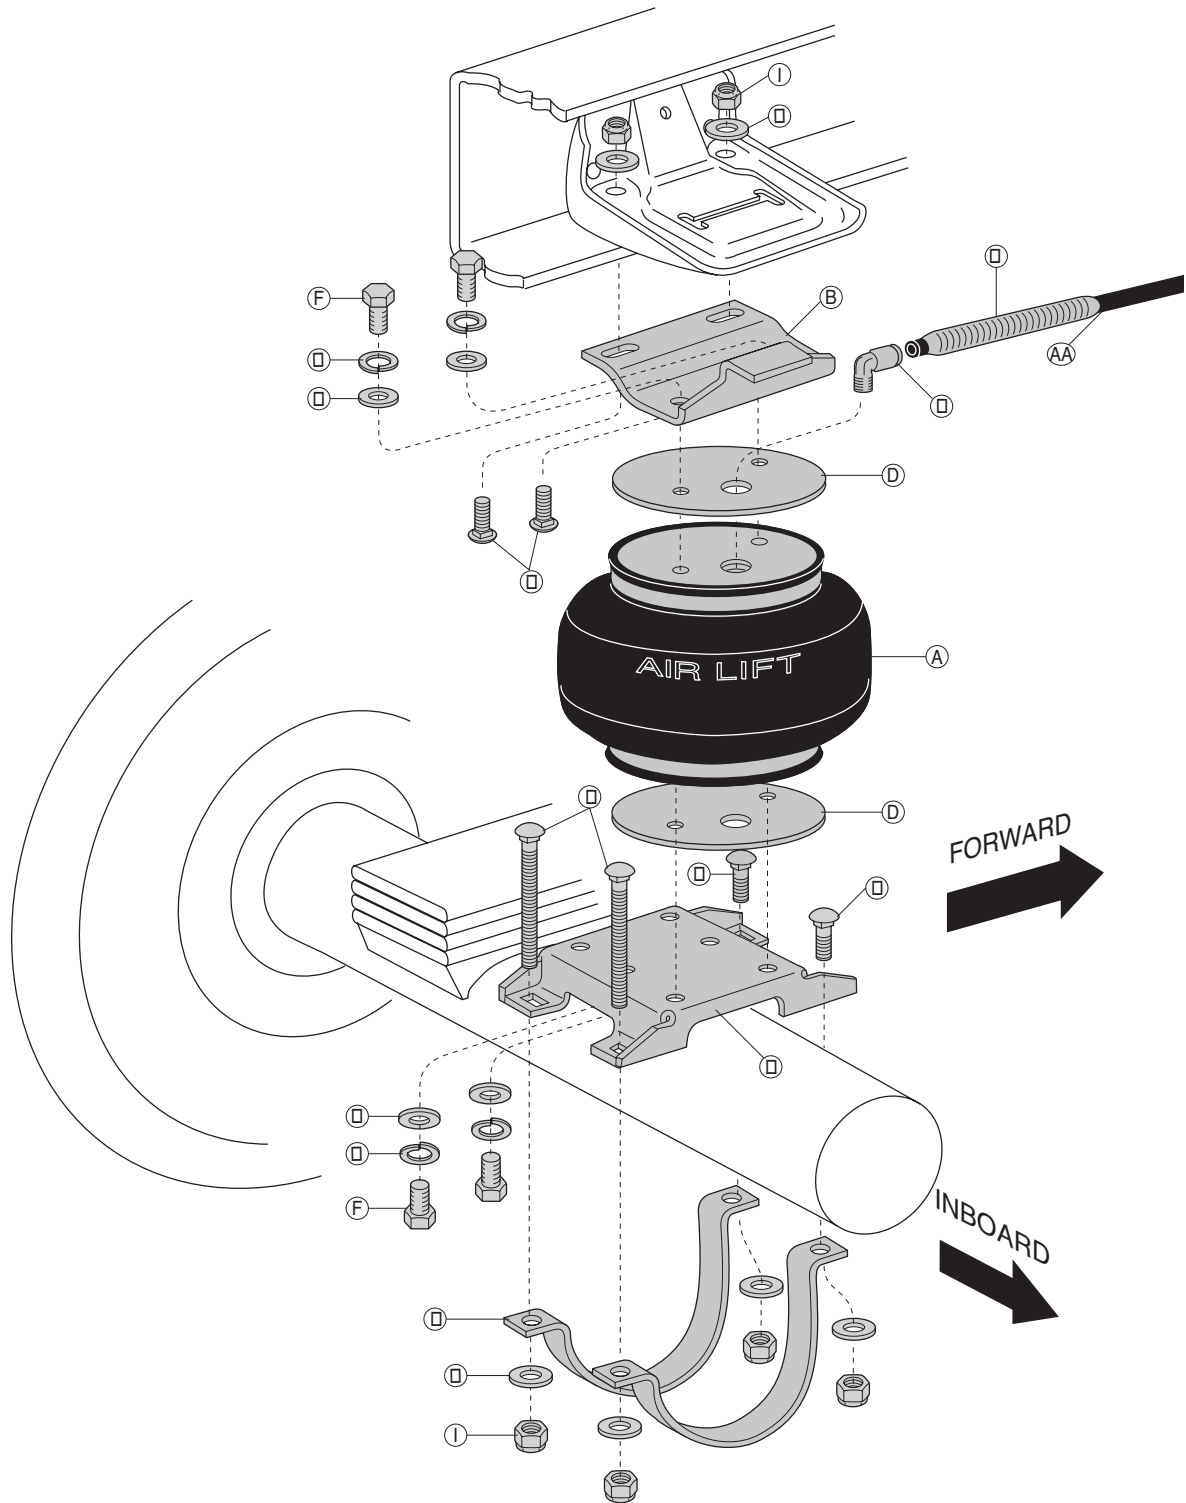

fig. 1
(* not shown in Figure 1)
4. Insert two short carriage bolts (K) into the upper bracket (Figure 1).
6. Secure the upper bracket to the frame and jounce bumper bracket using a flat washer (H) and nylock nut (I) on each carriage bolt (Figure 1).
1. Install two 3/8 " x 1.5" carriage bolts (K) in the two forward facing holes of the lower bracket (Figure 1).
2. Install two 3/8 " x 3.5" carriage bolts (J) in the rearward facing holes of the lower bracket (Figure 1).
3. Install the J-straps (L) with the long leg to the front of the vehicle. Loosely attach the straps using flat washers (H) and 3/8 " lock nuts (I). Refer to Figures 1 and 7.